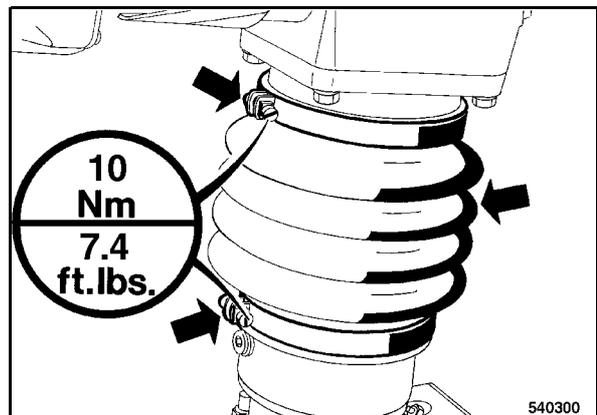

Fig. 42
- Check hose clamps for tight fit (Fig. 42).